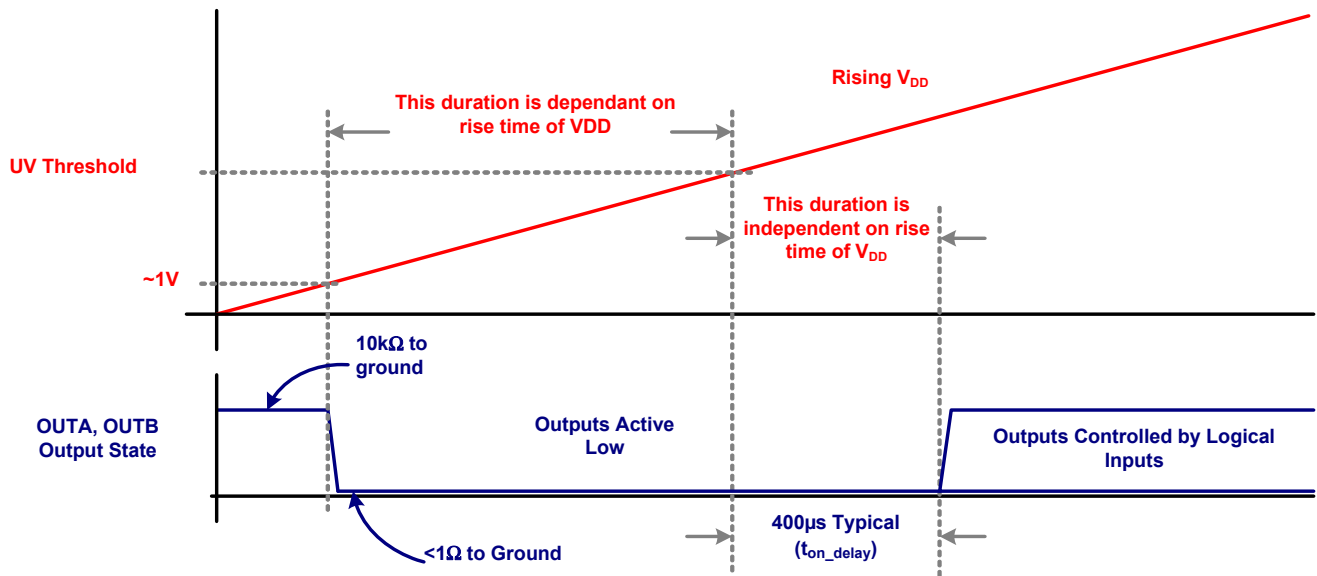

Figure 10. Start-Up Output Characteristic
| VDD Undervoltage Lockout (Options A and B) (Note 12 , Figure 10) | V _{UV} | ENA = ENB = True INA = INB = True | | 3.3 | | | | V |
| VDD Undervoltage Lockout (Option C) (Note 12 , Figure 10) | V _{UV} | ENA = ENB = True INA = INB = True (Note 9) | | 6.5 | | | | V |
- A 400µs delay further inhibits the release of the output state when the UV positive going threshold is crossed. See Figure 10 on page 10.
| Turn-On Delay (Note 12 , Figure 10) | t_{on_delay} | see Figure 10 | | 400 | | | | µs |
The start-up sequence for input threshold Options A, B, and C prevents unexpected glitches when V_{DD} is being turned on or turned off. When $V_{DD} < \sim 1V$, an internal $10k\Omega$ resistor connected between the output and ground helps keep the gate voltage close to ground. When $\sim 1V < V_{DD} < UV$, both outputs are driven low while ignoring the logic inputs. This low state has the same current sinking capacity as during normal operation, and it ensures that the driven FETs are held off even if there is a switching voltage on the drains that can inject charge into the gates using the Miller capacitance. When $V_{DD} > UVLO$, and after a $400\mu s$ delay, the outputs now respond to the logic inputs. See Figure 10 for complete details.
| 3.00 | Feb.22.12 | (page 5) ENA and ENB added to the Input Range parameter (page 6) Propagation delay testing parameters changed for option C (page 6) Note 13 added (page 7) Figure 3 modified to show different input thresholds for testing prop delays for option C (page 4) The startup sequence references for the VDD Undervoltage Lock-out parameters for Option C is now the same as Options A and B. Options A, B, and C now have the same startup sequence. (page 5) Note 9 is rewritten to be more precise. (page 8) The old startup sequence for Option C has been deleted (formerly Figure 10) (page 10) The old startup sequence description in the Functional Description Overview has been deleted. |